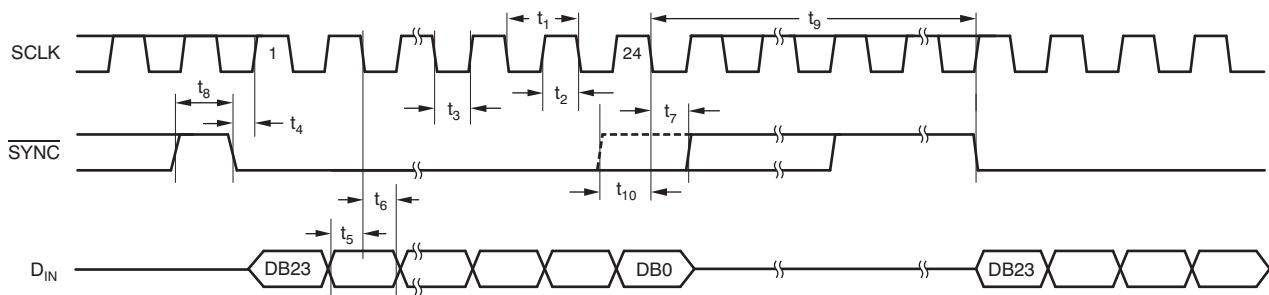

Figure 2. Serial Write Operation: 16-Bit (DAC8411)
(1) All input signals are specified with $t_{\text{R}} = t_{\text{F}} = 3\text{ ns}$ (10% to 90% of AV_{DD}) and timed from a voltage level of $(V_{\text{IL}} + V_{\text{IH}})/2$.
(2) See Figure 2 timing diagram.